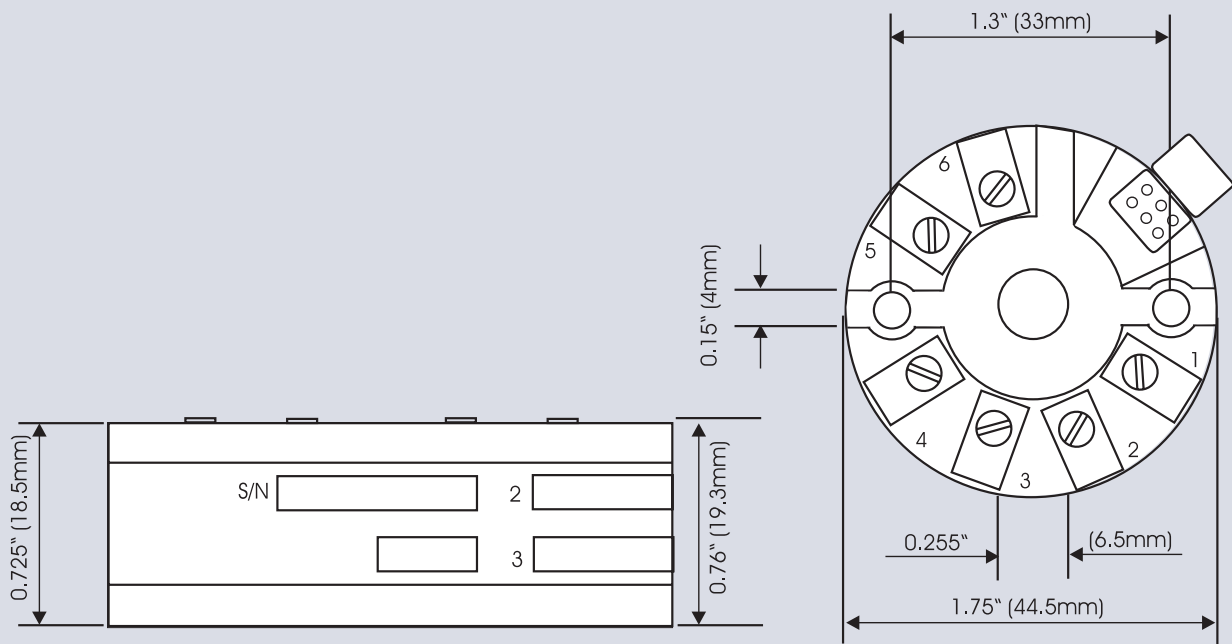

Figure 2: Dimensions
1. Physical dimensions for mounting are shown in Figure 2.